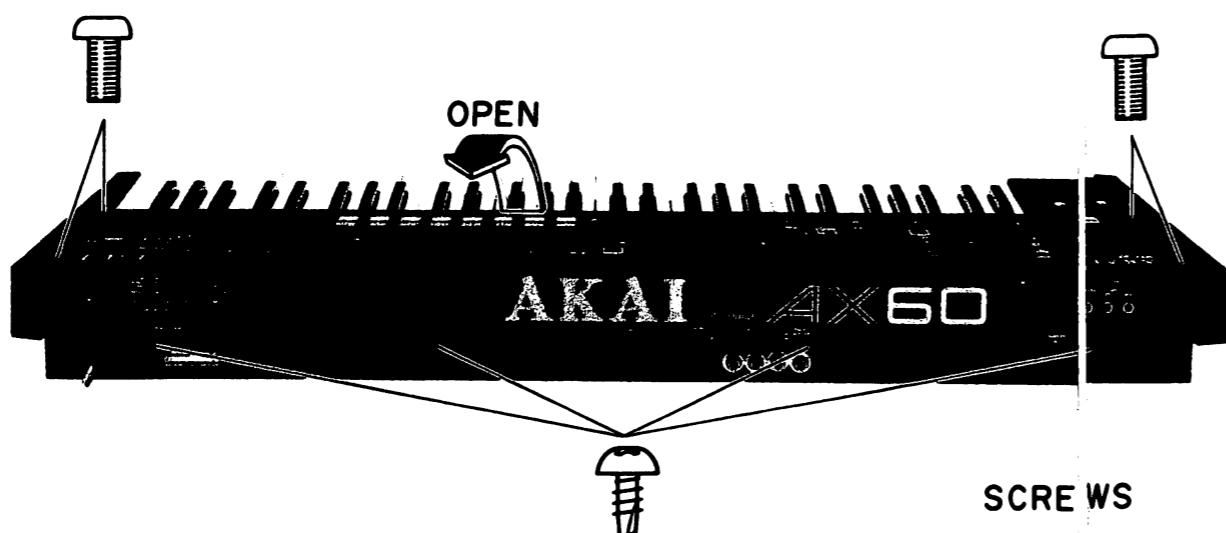
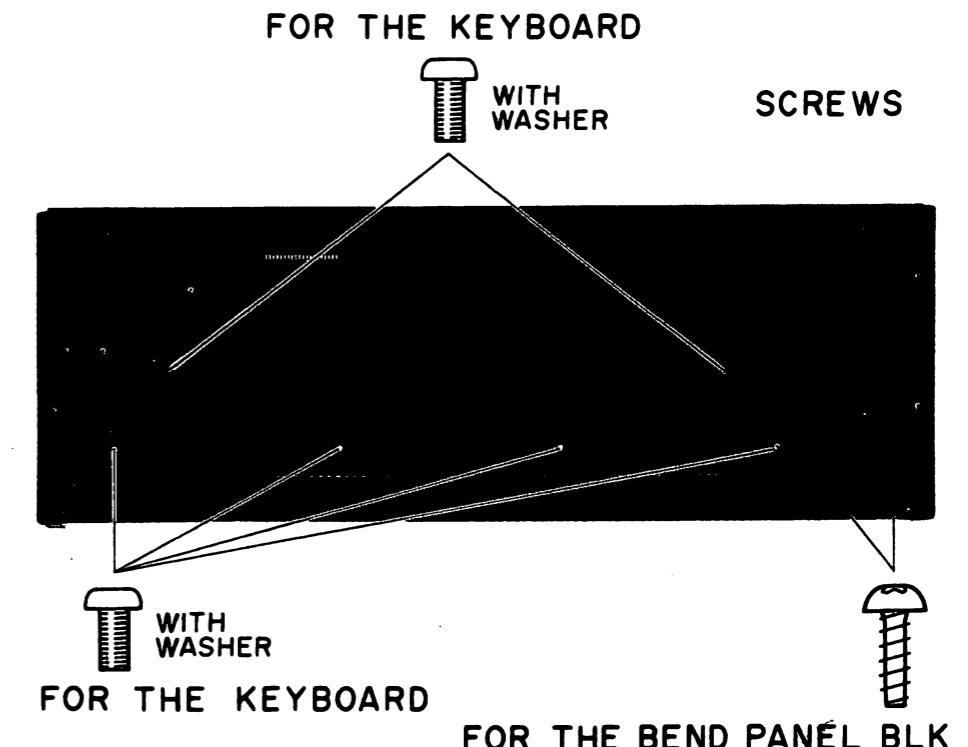
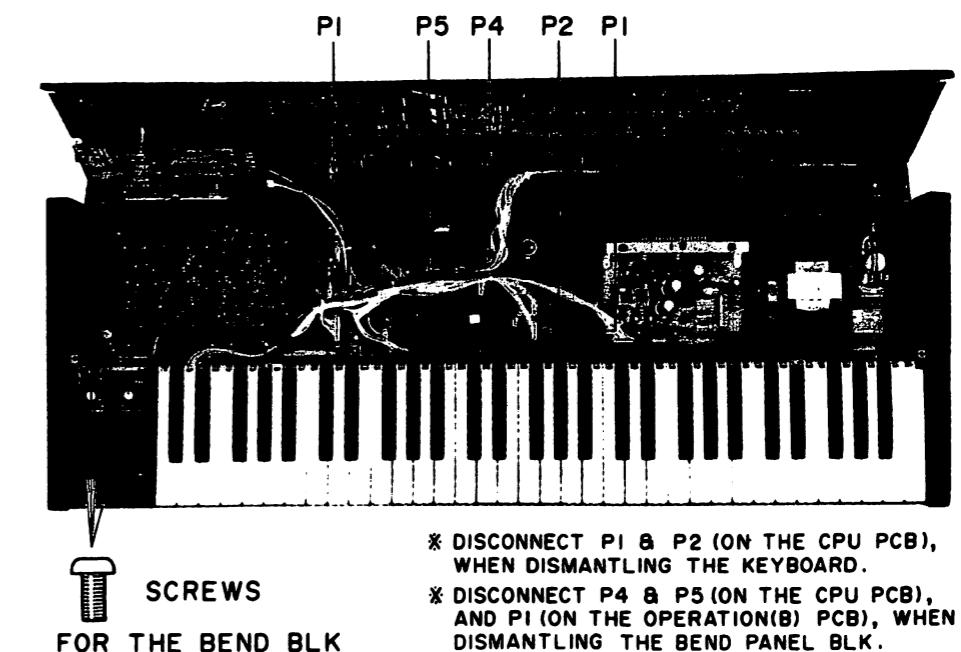

Fig. 2-1
Fig. 2-2
Fig. 2-3
2-1. HOW TO OPEN THE FRONT PANEL (Refer to Fig. 2-1)
- 1) Remove 8 screws as shown Fig. 2-1, and open the Front Panel as shown Fig. 2-3.
2-2. HOW TO DISMANTLE THE KEYBOARD (Refer to Fig. 2-2 and Fig. 2-3)
2-3. HOW TO DISMANTLE THE BEND PANEL BLOCK (Refer to Fig. 2-2 and Fig. 2-3)
- 1) Remove 6 screws as shown Fig. 2-2 and Fig. 2-3, and disconnect the connectors P4, P5 on the CPU PC Board and PI on the OPERATION (B) PC Board.